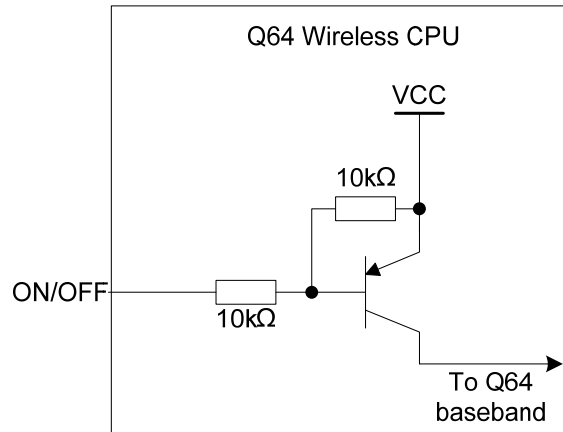

Figure 29: ON/OFF circuitry inside Q64
*Remark: The ON/OFF pin is connected to a PNP transistor before going into the Q64 baseband network and WMP100, shown in Figure 29.